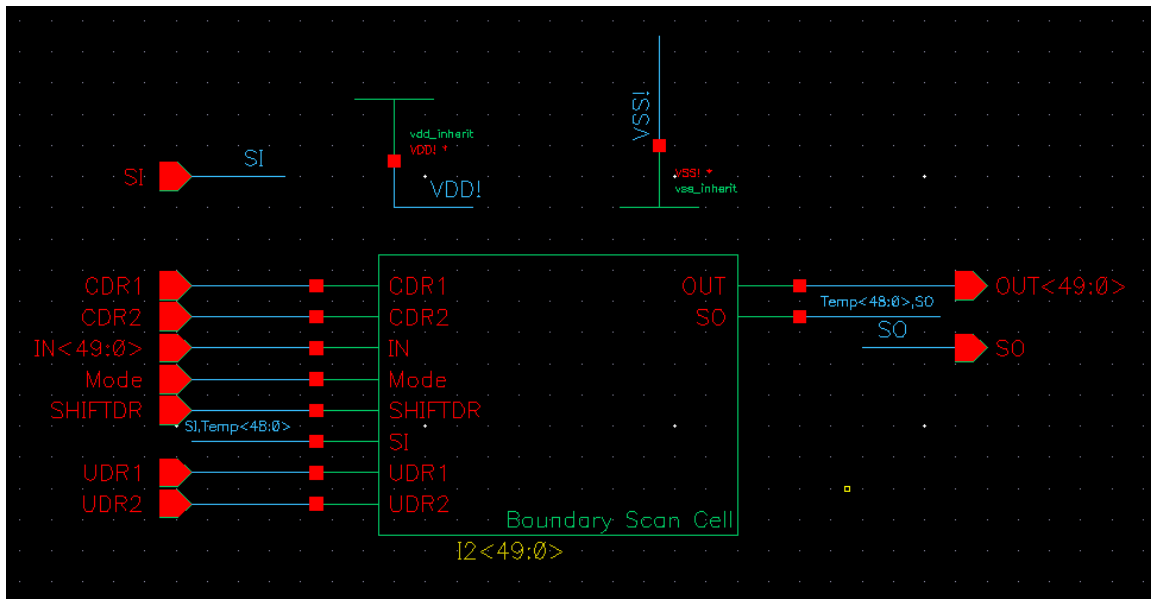

Figure 6 Iterated Instance Example
6. Using gates from your standard cell library capture the schematic of a 50-bit Boundary Scan Register (BSR) in a new cell at one hierarchical level (library cell FML\\_BSR50) – see Figure 10 and Figure 12 for reference. When connecting your BSR, note that BSR bit [49] is SI (scan in); BSR bit [0] is SO (scan out). Place all cells at one hierarchical level, and auto-route following the steps in EDA Tutorial 2. The schematic can be greatly simplified if you use the Composer iterated instance feature, see Figure 6. A sample testbench is provided, see BSR50\\_TESTBENCH.pdf